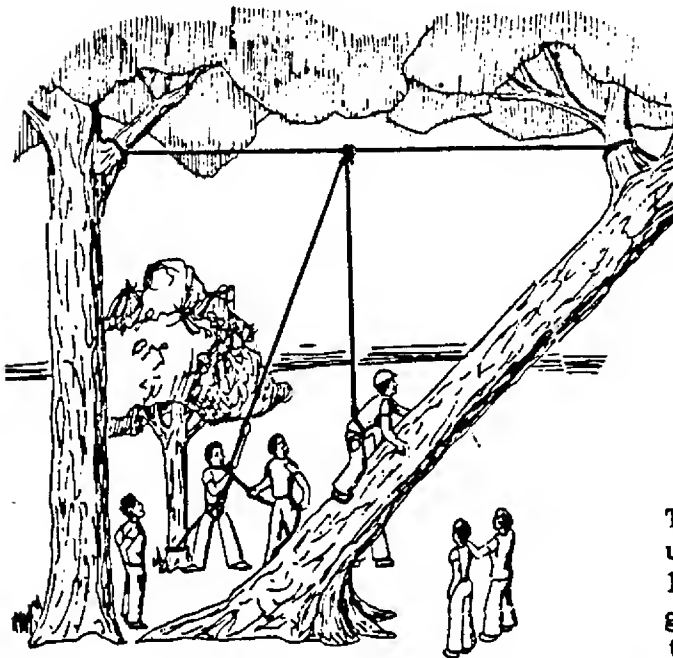

Figure 243 One Method for Anchoring the Belay
As stated before, lower belays may go directly up to the climber as in Figure 241, or the belay rope may run from the belayer, below, to above the climber to a belay point and then back down to the climber as seen in Figure 243. The sequence of hook-ups in this type of belay is as follows:
4. The belay rope then runs upward to some anchor point, such as a locking carabiner snaplink on a cable, as shown in Figure 243.
The arrangement in Figure 243 is used between the anchor and the belayer. Also note the second person gripping the belay rope as a "back-up" to the first belayer.